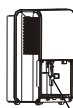

Fig.7 Pump hose drops
- If the pump hose drops when you remove the bucket (see Fig.7), you must reinstall the pump hose properly to the unit before replace the bucket into the unit (see Fig.8).